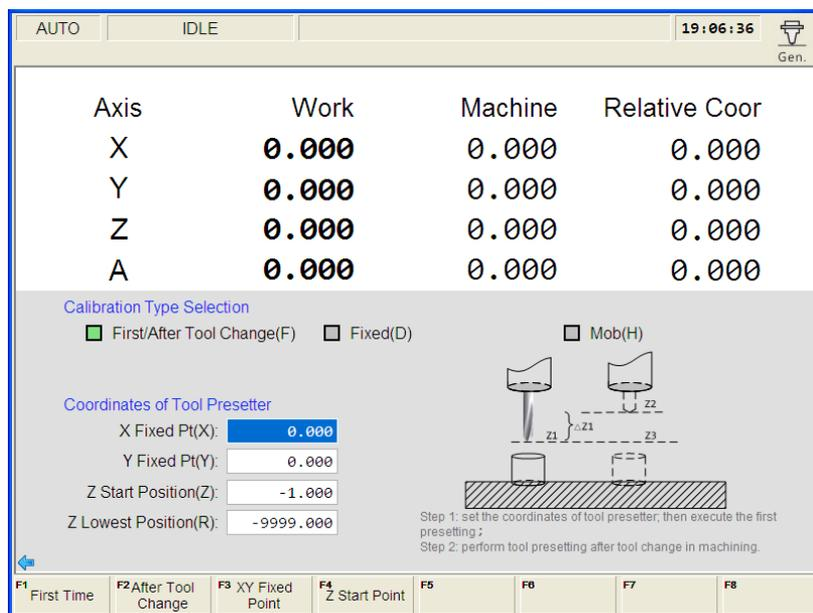

Fig. 3-37 First calibration/calibration after tool change
Press  => F6 “Calibration” to access the tool measurement interface, and press letter key F to activate the first calibration/calibration after tool change. See Fig. 3-37.
- After tool change or tool break, press F2 "After Tool Change" in Fig. 3-37 to execute calibration after tool change. The process is as shown below, and automatically completed by the system.